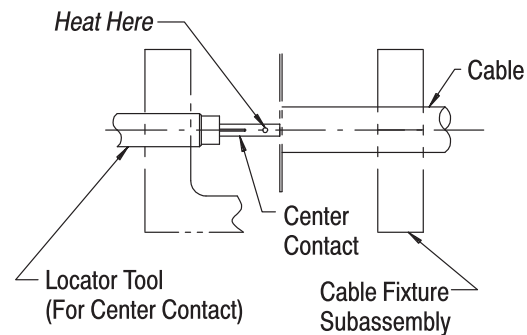

Figure 4
5. Place the cable in the cable fixture sub-assembly as shown in Figure 4.
6. Place the center contact in the locator tool (for center contact). Heat the center contact, and slide it onto the center conductor until it rests firmly against the cable dielectric. See Figure 4.